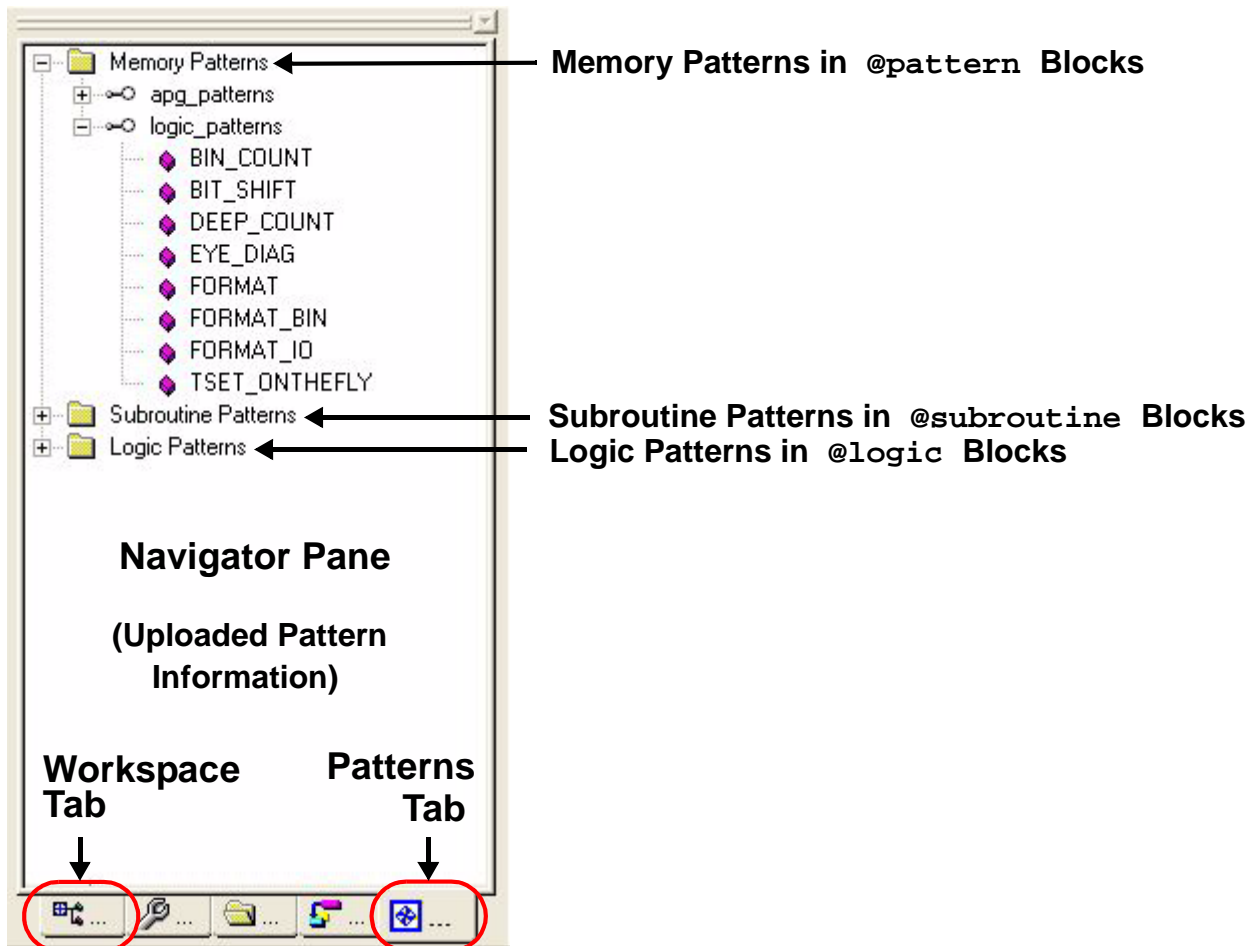

Figure 5-12. Navigator Pane
Displays or hides the Navigator pane (similar to Figure 5-12 or Figure 5-1 on page 138). The Navigator Pane displays on the left side of the Pattern Tool main window when a ✓ displays in front of its command in the View menu.
- Patterns Tab : Displays the uploaded pattern information (similar to Figure 5-12 or Figure 5-1 on page 138).